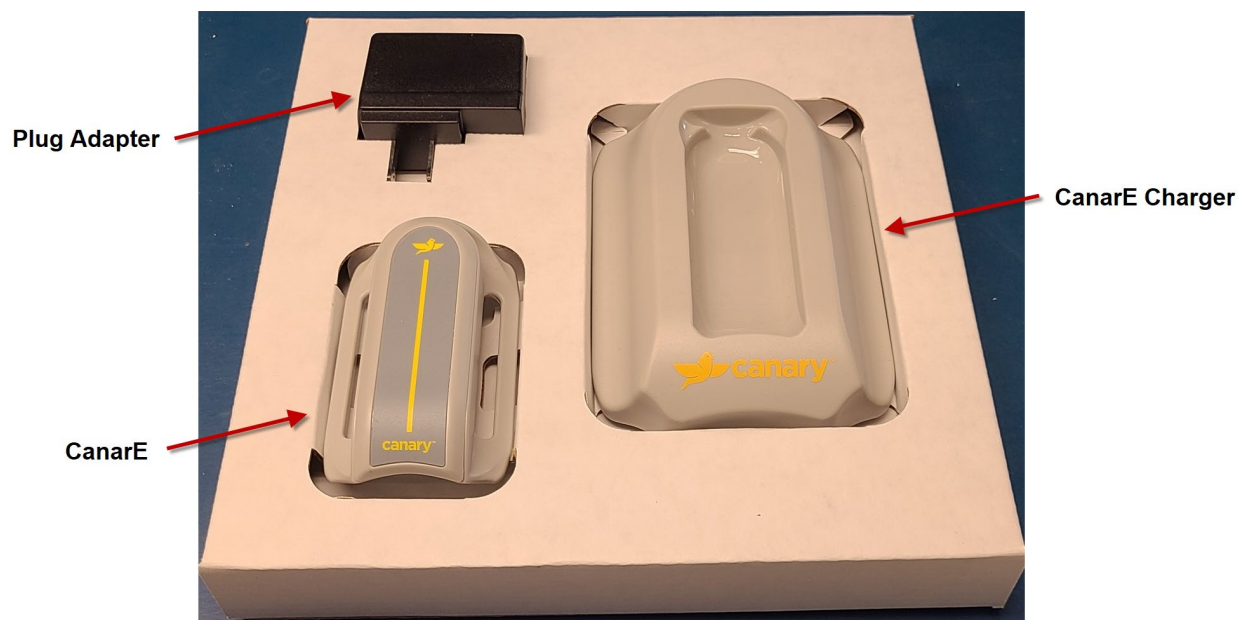

Figure 4: CanarE System Components Within Packaging
1. Remove all components from their packaging. See Figure 4.